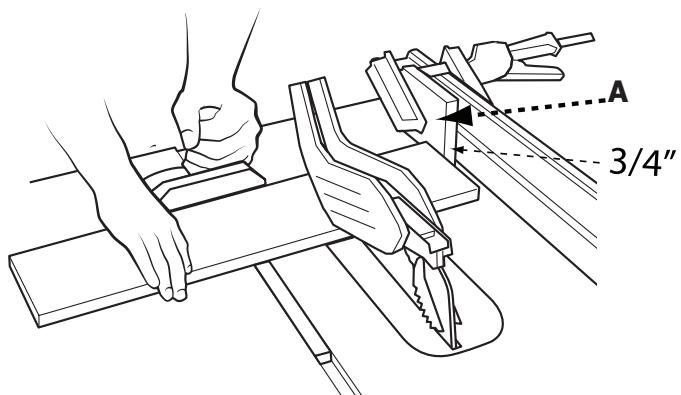

FIGURE 32
When crosscutting a number of pieces to the same length, you can clamp a block of wood (A) (FIGURE 32) to the fence and use it as a cut-off gauge. The block (A) must be at least  $\frac{3}{4}$ -inch (19 mm) thick to prevent the cut off piece from binding between the blade and the fence. Once the cut-off length is determined, lock the fence and use the miter gauge to feed the workpiece into the blade.